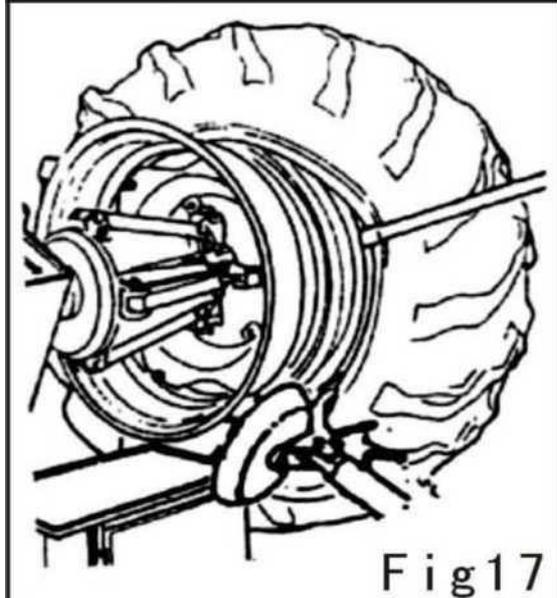

Fig 17
- 8) Move the tool bracket to the non working position, lower the tire to make it contact with the tire support plate ④, and move the tire support plate outward slightly, so as to leave a place for taking out the inner tube.
- 13) On the right side of the pointed tool, insert the crowbar between the rim and the edge of the wheel (see fig.17)